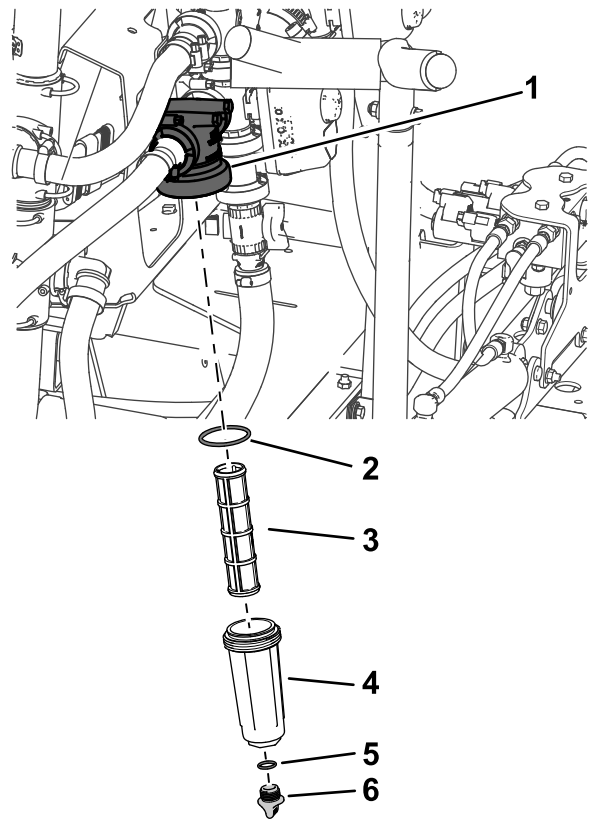

Figure 89
- Align a drain pan under the pressure filter (Figure 89).
- Rotate the drain cap counterclockwise and remove it from the bowl of the pressure filter (Figure 89).
4. Rotate the bowl counterclockwise and remove the filter head (Figure 89).
5. Remove the pressure filter element (Figure 89).
7. Check the gasket for the drain plug (located inside the bowl) and the gasket for bowl (located inside the filter head) for damage and wear (Figure 89).
8. Install the pressure filter element into the filter head (Figure 89).
9. Install the bowl onto the filter head, and tighten by hand (Figure 89).
10. Assemble the drain cap onto the fitting at the bottom of the bowl, and tighten the cap by hand (Figure 89).